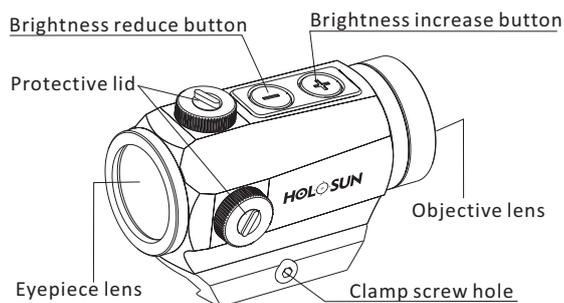

Fig1 PARALOW HS403A Red Dot Sight
3. First open the protective cap (see Fig1), position slot type screwdriver on the slotted screw, then rotate the screw to right or left for adjustment. Each left or right click is for one adjustment, equivalent to 0.5MOA value.